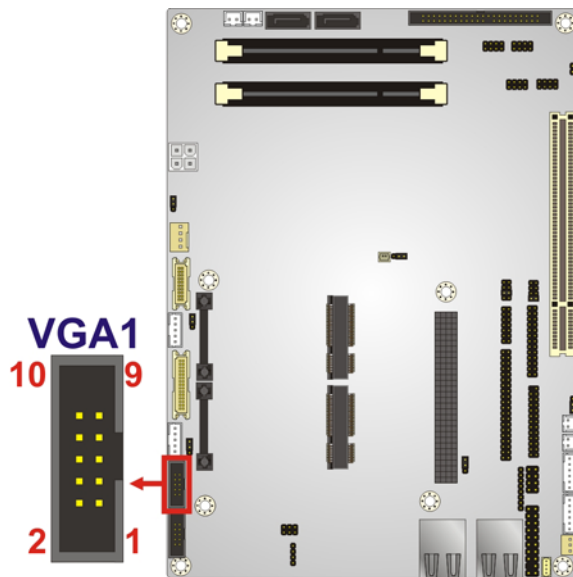

Figure 3-32: VGA Connector Location
- CN Location:** See **Figure 3-32**